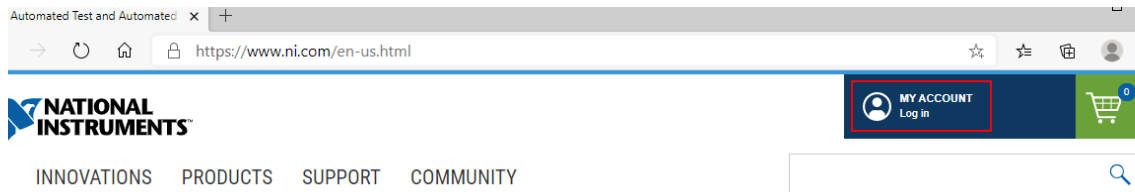

Figure 2-3 Login
2. Click “Log in” at the top right corner (Figure 2-3).